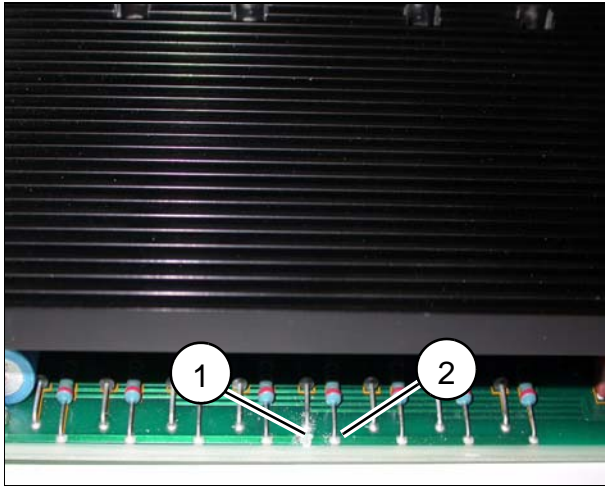
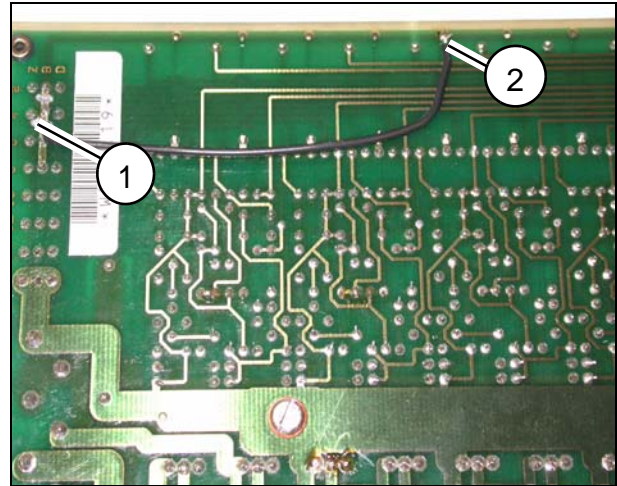

Fig. 3
Fig. 4
- Separate the connection from socket connector X1 b2 to b4 (1/Fig. 4) on the soldering side of the board and check the interruption with an ohmmeter.
- Interrupt the connection between the 4th and 5th resistor (1/Fig. 3) and check the interruption with an ohmmeter.
- Solder interconnecting wire 0.5 on board from socket connector X1 b4 (1/Fig. 4) to the 5th resistor (2/Fig. 3 and 2/Fig. 4) viewed from the socket connector.